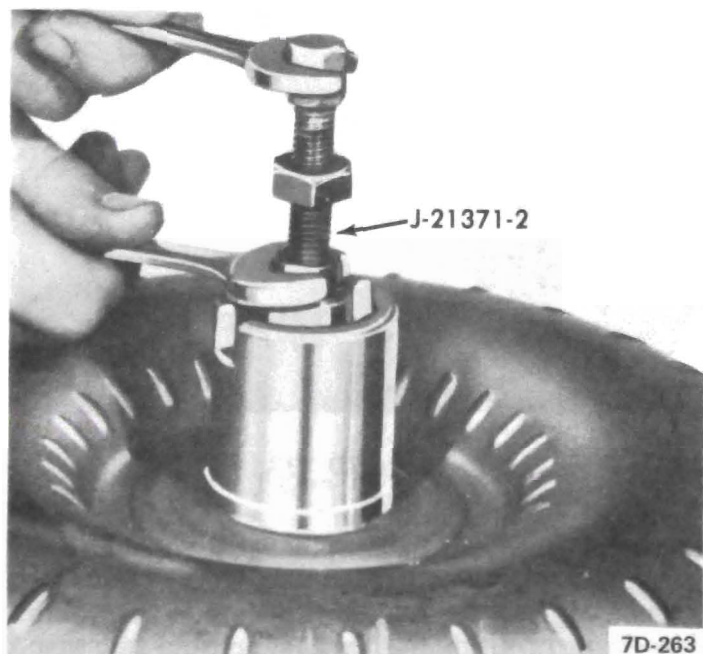

Figure 7D-186
b. Install Tool J-21371-3 and tighten hex nut. See Figure 7D-188.